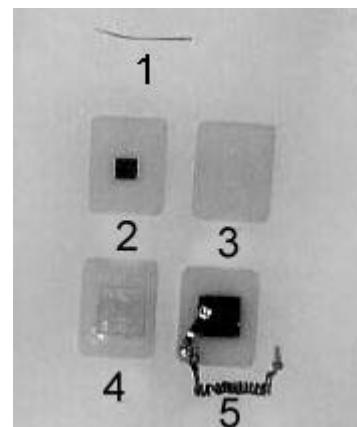

Fig. 21
- c) 10 ordinary AFM substrates - four PCS (Fig. 21. 2, 3, 4).
- 10) Pt-Ir or Pt-Rh wire for STM tips (Fig. 21. 1).
Wire made of PtIr or PtRh (Fig. 21. 1) is appropriate for the tips manufacture by means of shearing. The wire diameter must be 0.25 to 0.5 mm.
Substrates having electrical contacts for bias voltage application are appropriate for STM investigations (Fig. 21. 5).